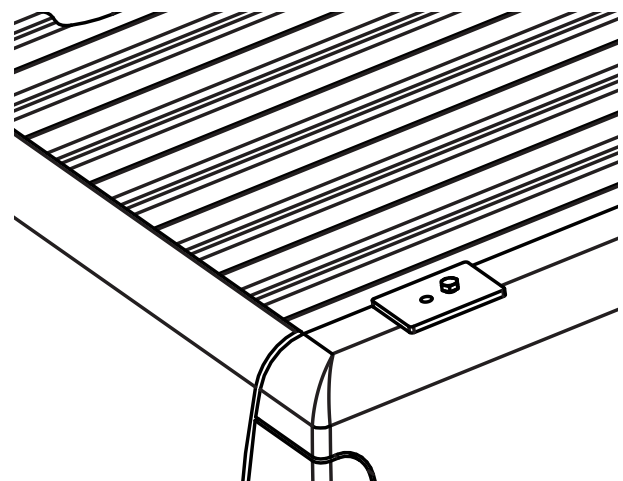

Fig. 4
4. Insert Stake Pocket Mounts Refer to Fig. 4